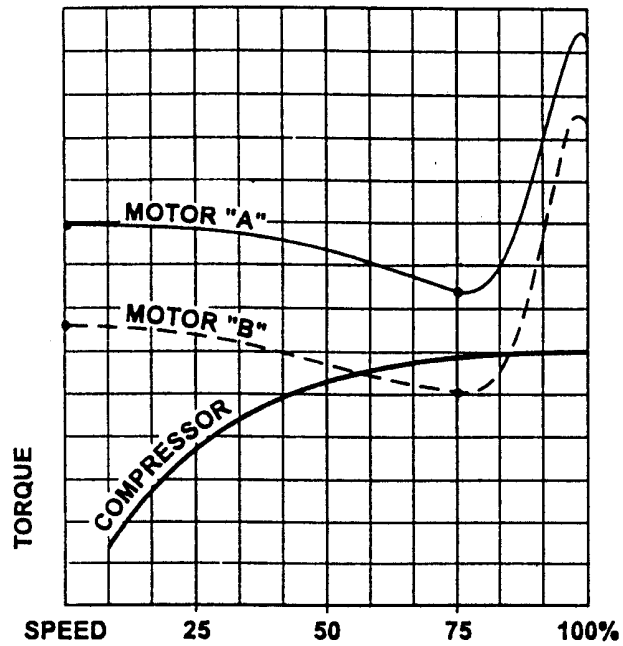

Figure 23-2 Typical Starting Torque Requirement for Motor
All drivers including motors should be checked for starting torque and starting acceleration time to see if the driver is with enough torque to start the compressor at the specified conditions within the acceleration time allowed for the motor. Figure 23-2 shows the pull-up torque of the motor (B) is below the compressor torque curve and therefore, the motor is not providing enough torque to pull the compressor up to the design speed.